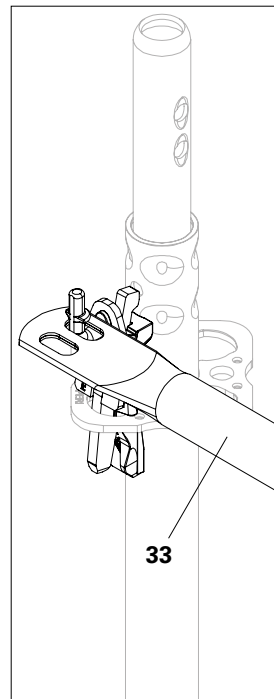
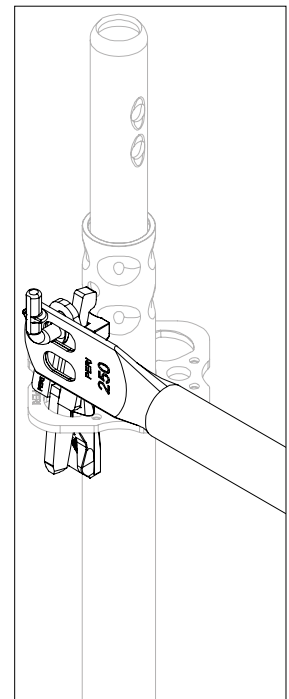

Fig. A11.03b
Fig. A11.03c
2. Hang the Guardrails EPG (**33**) and intermediate guardrails on the guardrail hooks. (Fig. A11.03b + Fig. A11.03c)